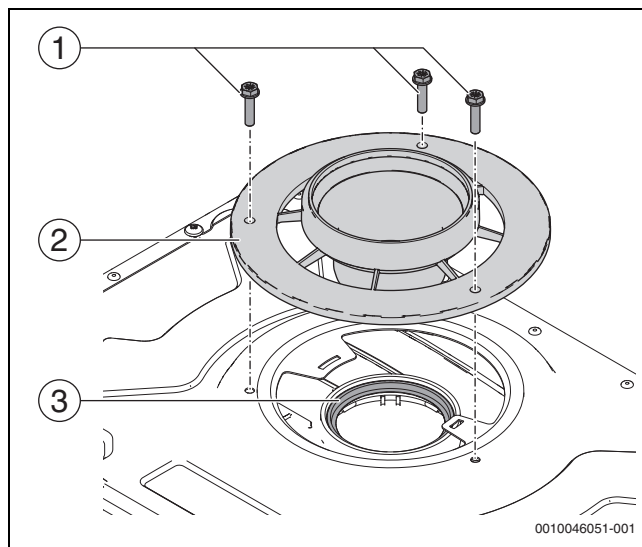

Fig. 166 Disassembly of the flue adaptor and the flue kit
- ▶ Place the flue adaptor and the flue kit on the top panel (→ Figure 166, [2]).
- ▶ Tighten three screws (pozi or hexagon) (→ Figure 166, [1]). Do not over-tighten.